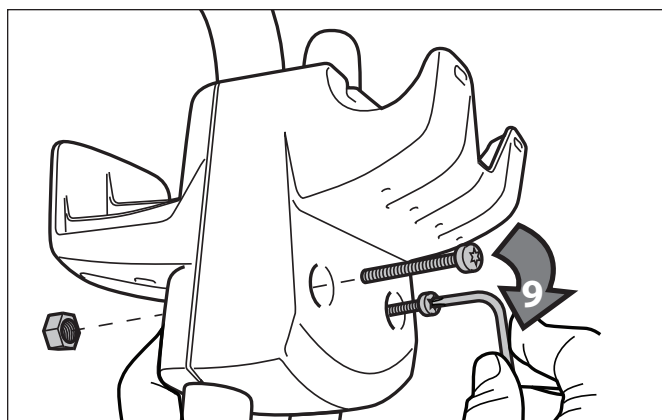

Figure 8. Secure the Hooks
- Secure the control unit hook using two (2) bolts and two (2) nuts and tighten with Torx wrench. Refer to Figure 8.